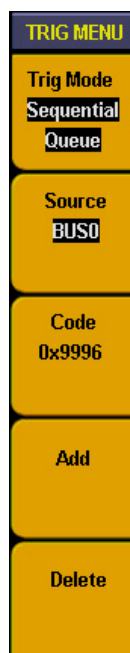

Fig 68: Sequential queue trigger
4. **Sequential queue trigger**: make BUS as trigger source and continuous setting data in BUS as trigger condition to generate trigger and also can set 8 data at the same time.(See Fig 68)